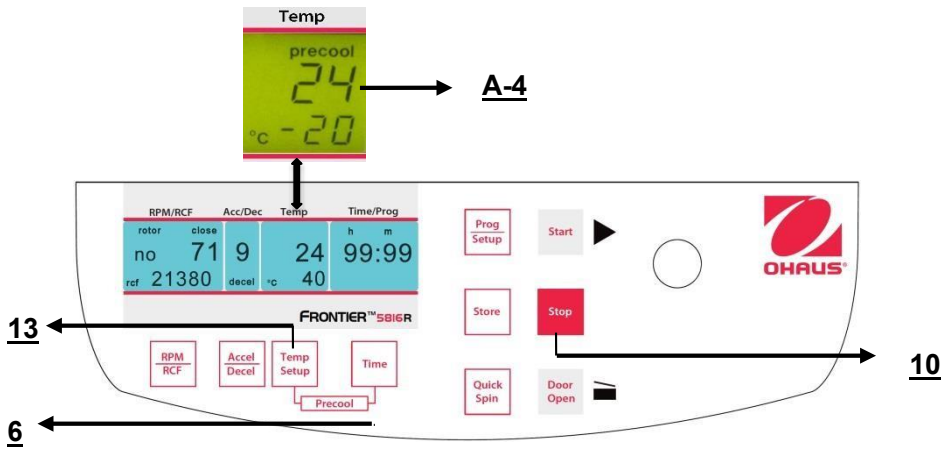
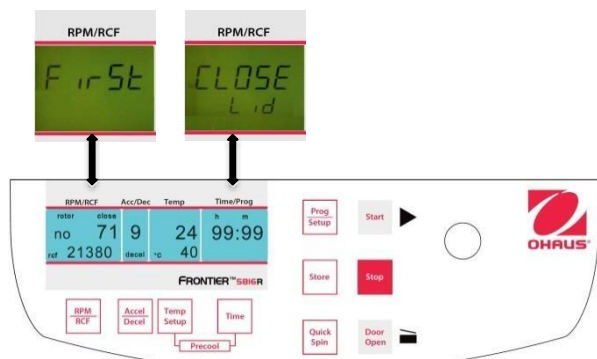

Figure. 23
Figure. 26
Close the lid of the centrifuge. Now proceed as described previously to set all important run parameters. If the lid isn't closed when storing the program, in the display "**RPM/RCF**" (A-1), the words "**FirSt**" and "**CLOSE Lid**" (See figure 23) flashes alternately. If you want to start the run without storing the program, in the display "**RPM/RCF**" (A-1), the words "**First**" and "**PrESS StoreE**" (See figure 26) flashes alternately.
For adaption of data press the key **"Store"** (12) (refer to figures 26 and 27) for approx. 1 second. If the program is stored correctly, the word **"StorE"** appears in the display **"RPM/RCF"** (A-1). As a result, the word **"programm"** (M10) disappears.
You can start the centrifuge either with the **"Start"** key (9) (refer to figure 26) or the **"Quick Spin"** key (8).